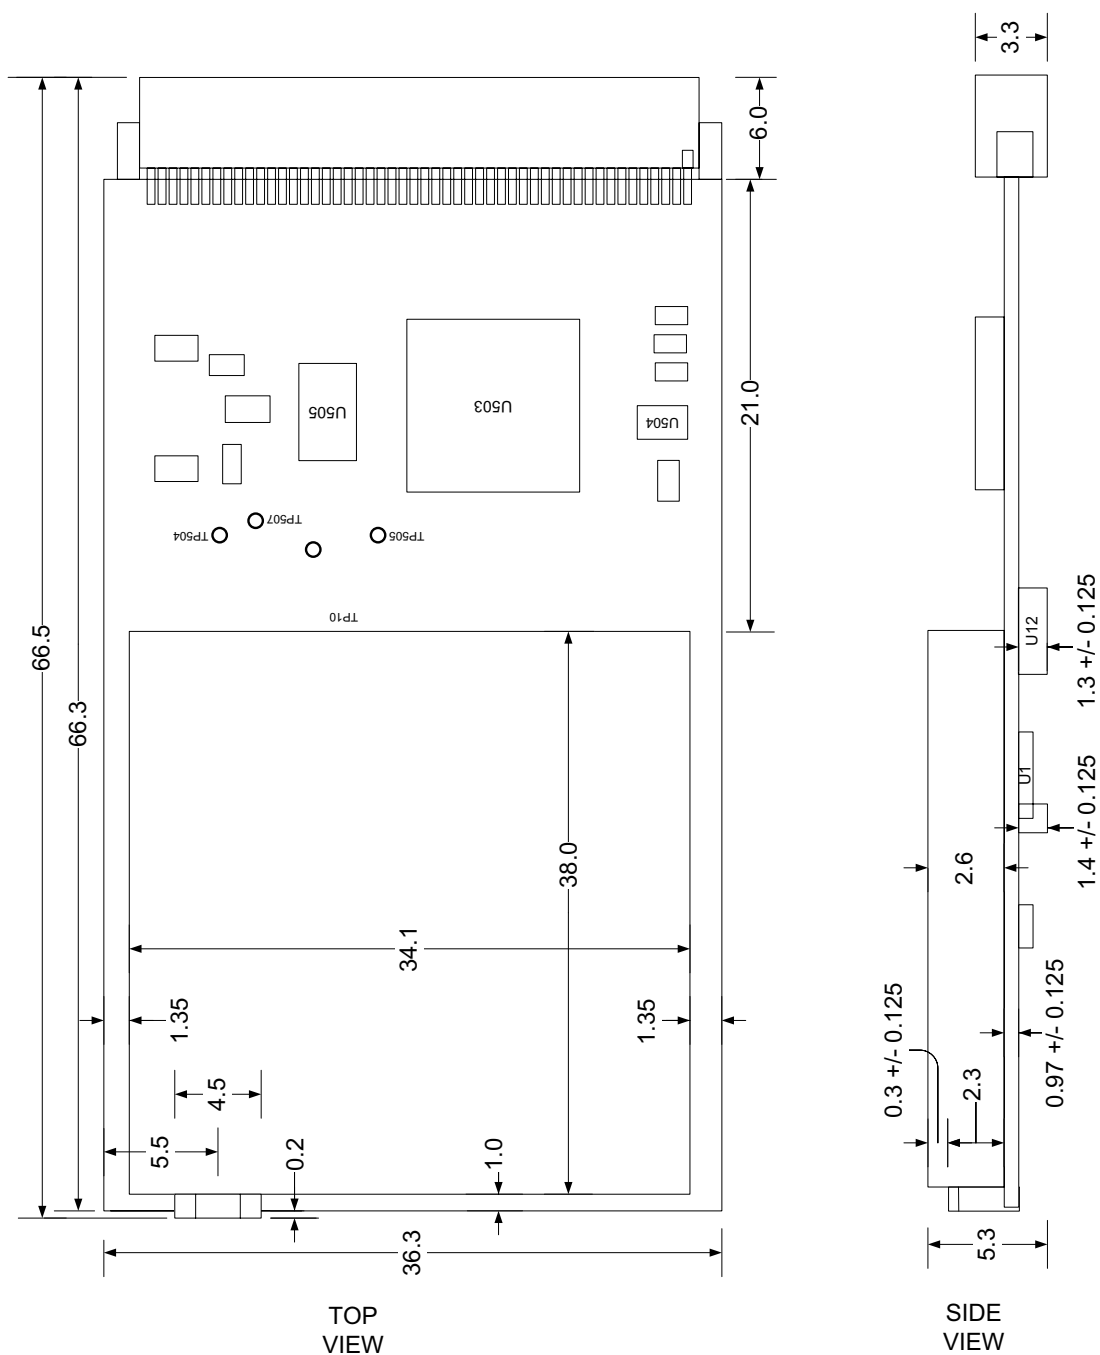

Figure 2-2 SkyeModule M9 Dimensions (CF Variant)
Figure 2-2 on page 2-16 shows the dimensions of the compact flash (CF) variant.